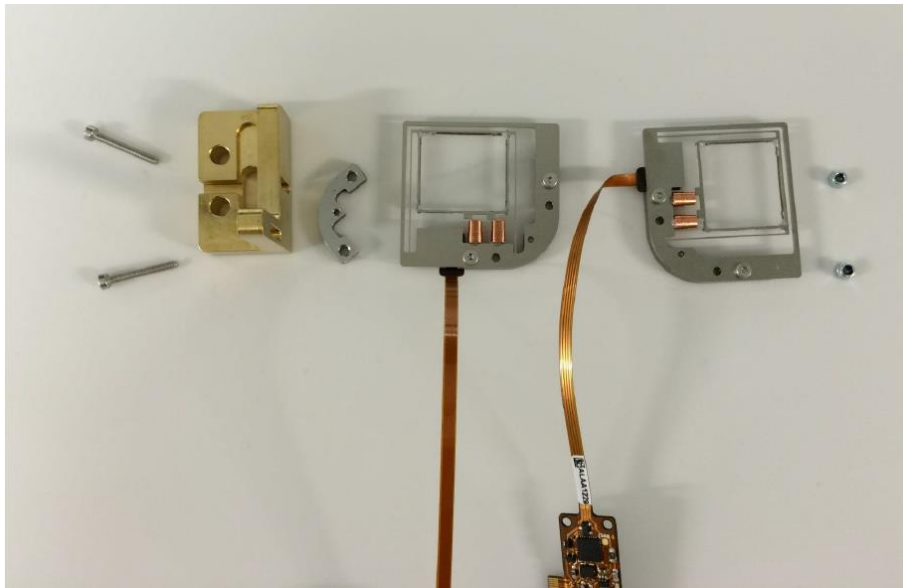
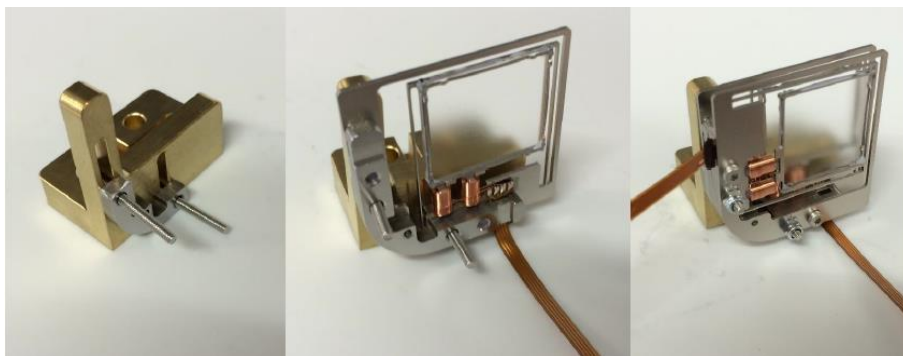

Figure 6: Parts delivered when purchasing the LSR-4C-LL together with the LSR-4C-LL mounting kit and LSR-4 Bracket kit.
Figure 7: Assembly steps for the LSR-4C-LL.
When purchased together with the LSR-4C-LL Mounting Kit, the assembly and mounting of the LSR-4C-LL (or LSR-5-LL) goes as follows. The individual parts are shown in Figure 6 and the individual assembly steps in Figure 7.
1. Attach the mounting kit (6) to the bracket (1) using the supplied M2x16 screws (7).
2. Attach the first LSR-4C-L (5) to the mounting kit (6) by threading it onto the M2x16 screws (7). Take care to orient the device according to Figure 7.
3. Attach the second LSR-4C-L (5) to the mounting kit (6) by threading it onto the M2x16 screws (7), flush against the first LSR-4C-L. Take care to orient the device according to Figure 7. Fix the devices with the M2 nuts (-). Tighten all screws such that the LSR-4C units are rigidly fixed to the respective parts.
4. Mount the complete setup on e.g. an optical post using the M4x16 screws (3) and washers (2).